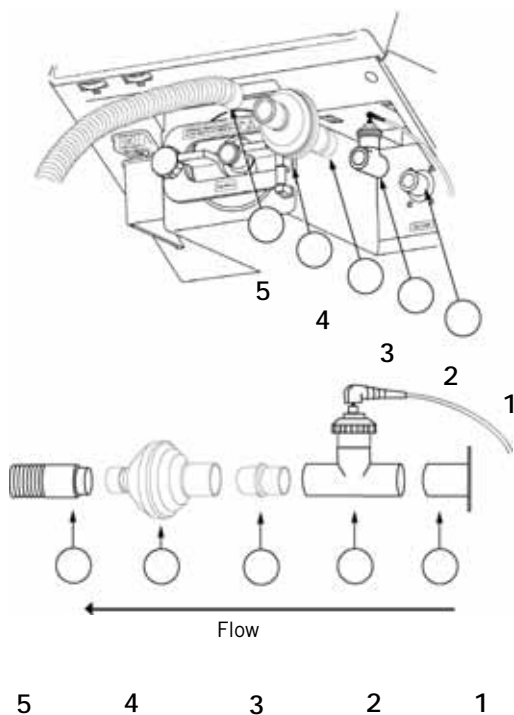

Figure 4-19: Inserting Disposable Inspiratory Bacteria Filter
The inspiratory bacteria filter (4) in Figure 4-19, mounts on the gas outlet port (1) located in the lower right corner on the front of the ventilator. If the optional O₂ sensor (2) will be used, it will be connected to the gas outlet port (1) before the inspiratory bacteria filter is connected. For more information regarding the optional O₂ sensor, refer to Chapter 13, “Options and Accessories”.
Refer to Figure 4-19.